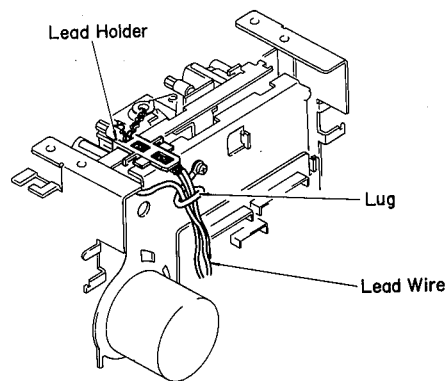

Fig. 5
- b. Loosen 2 screws (7) Fig. 5 and remove the lead holder.